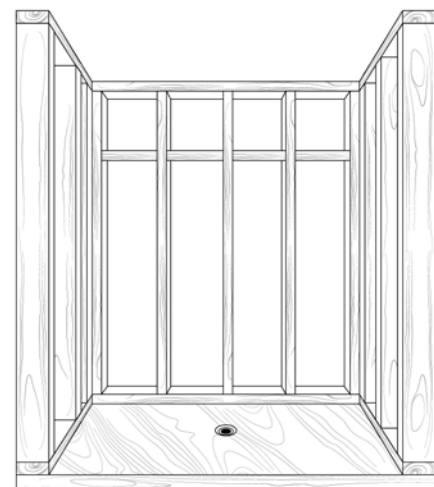

figure 2
- ☐ The shower pan should rest on the sub-floor, with the finished floor rising no more than $\frac{3}{8}$ " above the sub-floor. **Do not install the shower pan on top of a finished floor.** (see figure 2)